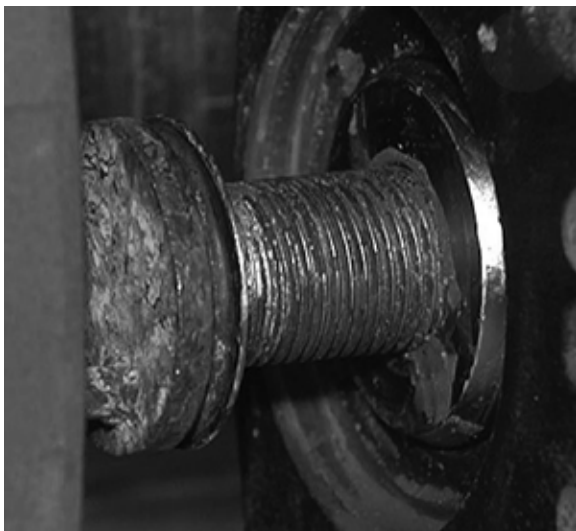

Figure 78: Corroded adjuster piston
9. **Check** the thread of the adjuster piston for corrosion, wear and damage (Figure 78).